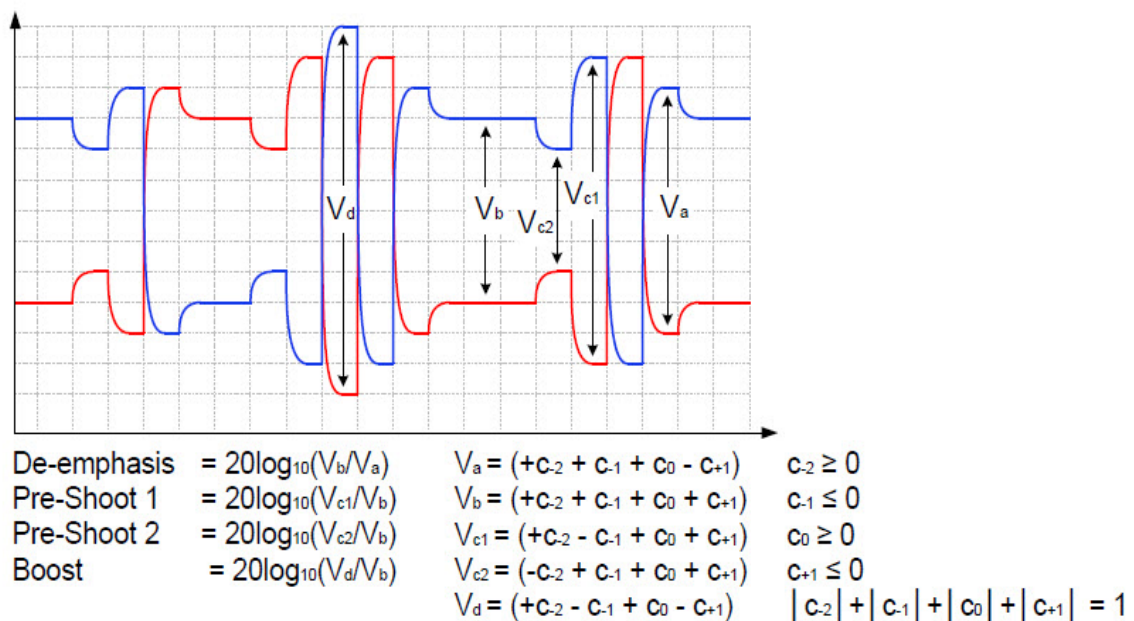

Figure 43 Waveform measurement points for preshoot and de-emphasis
64.0 GT/s PCIe signaling must support the full range of presets given in Table 8-2 (PCIe Base Specification Revision 6.0). Presets are defined in terms of ratios, relating the pre-cursor and post-cursor equalization voltages. The pre-cursor (V_c) is referred to as pre-shoot, while the post-cursor (V_b) is referred to as de-emphasis. This convention permits the specification to retain the existing 2.5 GT/s and 5.0 GT/s definitions for Tx equalization, where only de-emphasis is defined, and it allows preshoot and de-emphasis to be defined such that each is independent of the other. The tolerances in Table 8-1 (PCIe Base Specification Revision 6.0) also apply to 2.5 and 5.0 GT/s de-emphasis. The maximum swing, V_d , is also shown to illustrate that, when both c_{+1} and c_{-1} are nonzero, the swing of V_a does not reach the maximum as defined by V_d . The high frequency nature of PCIe signaling makes measurement of single UI pulse heights impractical. Consequently all amplitude measurements are made with low frequency waveforms as shown in Figure 43.
- 13 Computes their equalization voltages by using Matlab, and then calculates equalization ratios by using the formulae stated in Figure 43 (Figure 8-6 of the spec).